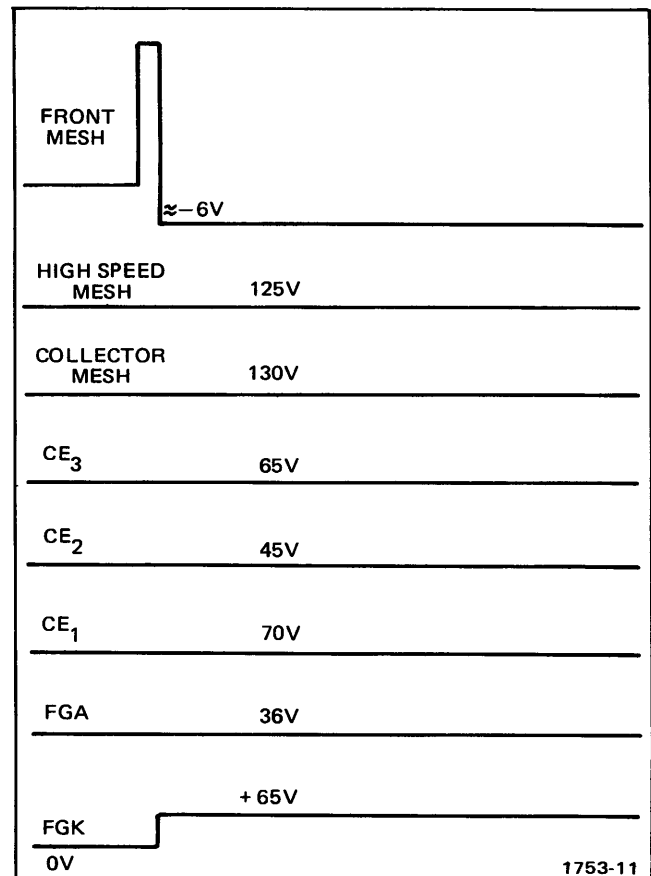

Fig. 3-11. Non-Store Mode—CRT Storage Element Voltage Levels.
**Flood Gun Anode and CE1 Amplifiers.** The basic circuit is a two transistor operational amplifier. The output voltage is controlled by the input current. The FGA and CE1 amplifiers operate the same, with the input currents and outputs being different. See Figures 3-11 through 3-14 for waveforms and voltage levels produced. The A pulse turns off diodes CR2054 and CR2044. When these diodes are off, current from R2053 and R2043 is added to the amplifier input through diodes CR2055 and CR2045. When the B pulse occurs, CR2053 and CR2043 are turned on, which turns off CR2055 and CR2045, removing the current through R2053 and R2043 from the input. In the FAST mode, when more than one display is stored1, diodes CR2052 and CR2042 are held on by the H input level. This maintains a 20 volt level on the FGA element and a 30 volt level on the CE1 element. When all logic inputs are LO, resistors R2054 and R2052 provide the input current which sets the output voltage of the FGA amplifier. Resistors R2044 and R2042 provide the input current which sets the output voltage of the CE1 amplifier.